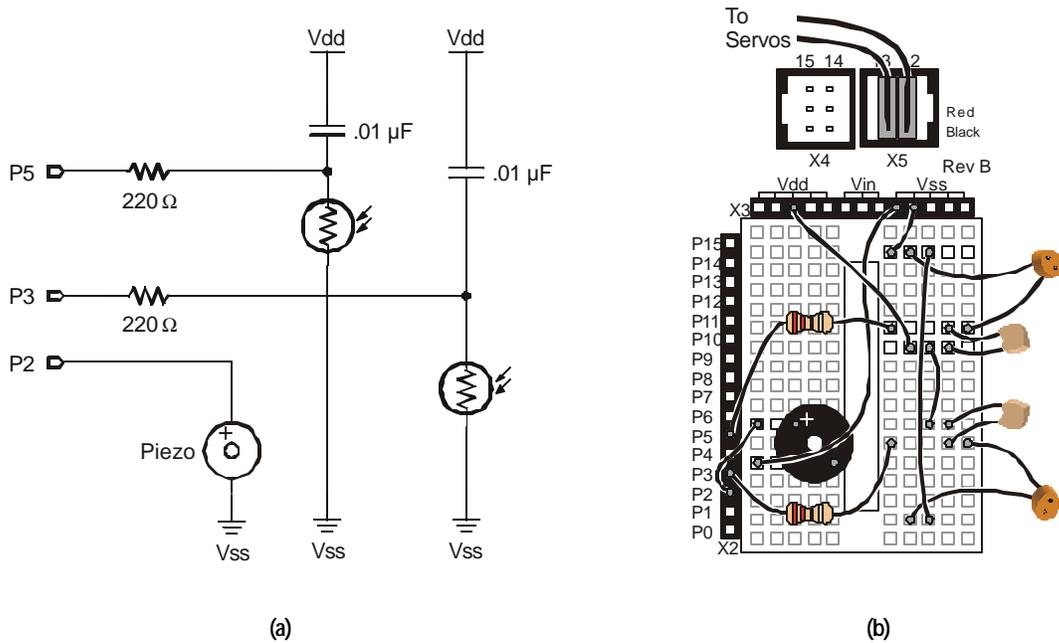

Figure 4.3: (a) Two photoresistor RC circuits for measurement of resistance that varies with light, and (b) breadboard example of the circuit.
Figure 4.3 shows (a) the resistor/capacitor (RC) circuit for each photoresistor and (b) a breadboard example of the circuit. A photoresistor is an analog device. Its value varies continuously as illuminance, another analog value, varies. The photoresistor's resistance is very low when it's light-sensitive surface is placed in direct sunlight. As the light level decreases, the photoresistor's resistance increases. In complete darkness, the photoresistor's value can increase to more than $1 \text{ M}\Omega$. Even though the photoresistor is analog, its response to light is nonlinear. This means if the input source (illuminance) varies at a constant rate, the photoresistor's value does not necessarily vary at a constant rate.
The circuit in Figure 4.3 (a) was designed for use with the PBASIC `rctime` command. This command can be used with an RC circuit where one value, either R or C, varies while the other remains constant. The `rctime` command lends itself to measuring the variable values because it takes advantage of a time varying property of RC circuits. The time it takes for the voltage on an RC circuit to change voltage depends on $R \times C$, the RC time constant. The RC time constant is often denoted by the Greek letter Tau (τ).
For one of the RC circuits shown in Figure 4.3 (a), the first step in setting up the `rcTime` measurement is charging the lower plate of the capacitor to 5 V. Setting the I/O pin connected to the lower capacitor plate by the 220 Ω resistor high for a few ms takes care of this. Next, the `rcTime` command can be used to take the measurement of the time it takes the lower plate to discharge from 5 to 1.4 V. Why 1.4 V? Because that's the BASIC Stamp I/O pin's threshold voltage. When the voltage at an I/O pin set to input is above 1.4 V, the value in the input register bit connected to that I/O pin is "1." When the voltage is below 1.4 V, the value in the input register bit is "0."
The `rcTime` command for the circuit shown in Figure 4.3 measures how long it takes for the voltage at the lower plate of the capacitor to fall from 5 to 1.4 V. This time varies according to the formula:
Equation 4.1 indicates that the time it takes the voltage at the lower plate of the capacitor in one of the Figure 4.3 (a) RC circuits to drop from 5 to 1.4 V is directly proportional to the photoresistor's resistance. Since this resistance varies with illuminance (exposure to varying levels of light), so does the time. By measuring this time, relative light exposure can be inferred.